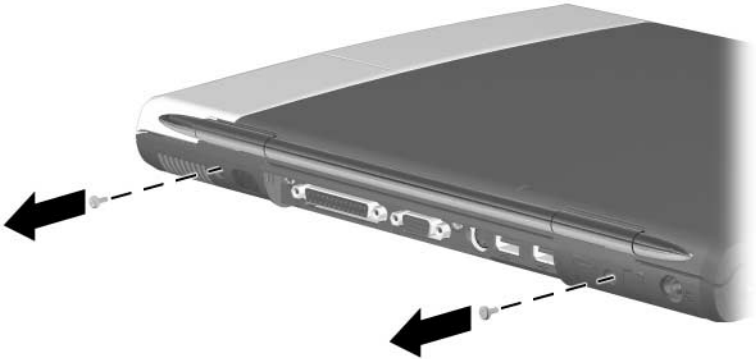

Figure 5-18. Removing the Display Screws
4. Remove the two PM2.5 × 9.0 screws that secure the display hinges to the base enclosure (Figure 5-18).